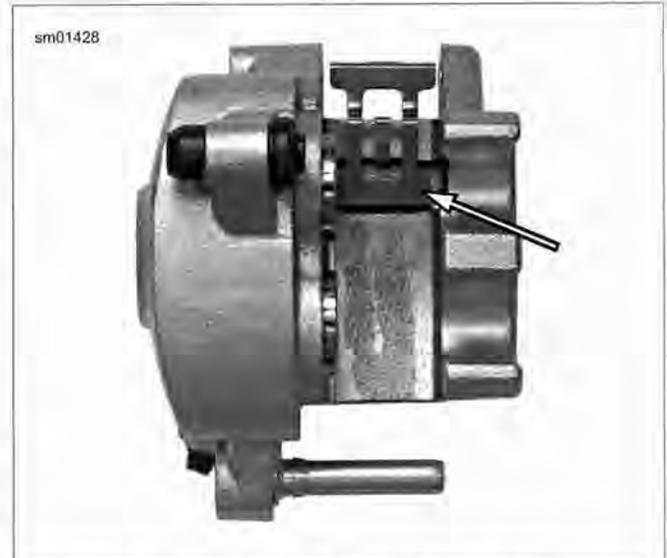

Figure 1-15. Front Caliper Pad Spring
- See Figure 1-15. Verify that the pad spring is installed before installing the **new** pads.
- Pad spring orientation must match Figure 1-15.